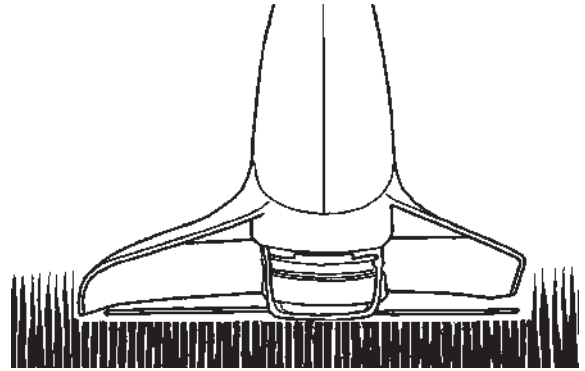

Fig. 11
3. **TRIMMING / MOWING** (Fig. 11). Swing trimmer with a sickle-like motion from side to side. Do not tilt the stringhead during the procedure. Test area to be trimmed for proper cutting height. Keep stringhead at same level for even depth of cut.